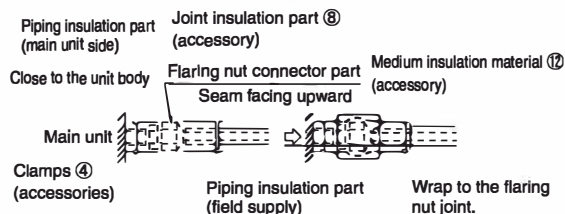

Figure 12
- (2) After piping connection is finished, check if gas leaks.
- (3) After checking that there is no gas leakage, insulate the piping connector part properly with insulation material. (Refer to Figure 12)
- When performing insulation, attach the included joint in insulation parts (8) and (9) to the liquid side piping and gas side piping. In addition, make the seams of the joint insulation parts (8) and (9) face upward. (Pinch both ends with the clamps (4).)
- For the liquid side piping and gas side piping, wrap the medium insulation material (11) and (12) to the joint insulation parts (8) and (9). (Flaring nut part) For piping connected locally, wrap the insulation material till the piping connections. The naked piping may result in condensation and burns.